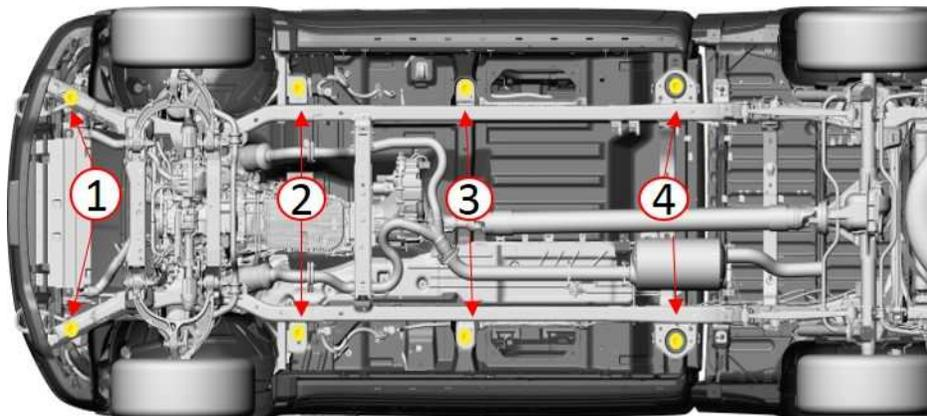

Fig. 1
4. Loosen all four (five for Mega Cab vehicles) cab mount bolts on the side that you are not currently working on (Fig. 1) .